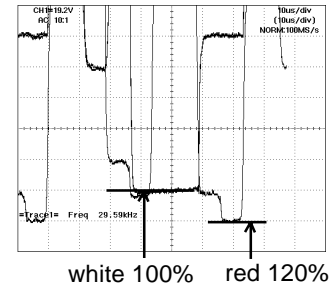

Fig. 2-2
7. Press the VOL. UP/DOWN button on the remote control until the red color level is adjusted to  $120 \pm 10\%$  of the white level. **(Refer to Fig. 2-2)**